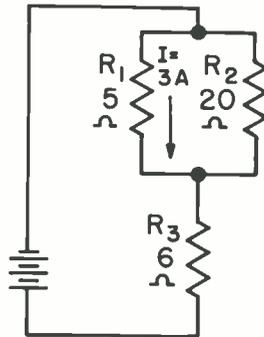

Fig. 10
6. (a) 15; (b) 15; (c) 0.75; (d) 3.75; (e) 22.5; (f) 37.5 . . . Refer to Fig. 10. The voltage across R_1 is found in Ohm's law to be $E = IR = 3 \text{ A} \times 5 \Omega = 15 \text{ V}$. Since R_2 is in parallel with R_1 , the voltage across it is also 15 V. The current through R_2 is $I = E/R = 15 \text{ V}/20\Omega = 0.75 \text{ A}$. The current through R_3 must be the sum of the currents through R_1 and R_2 , or $3 \text{ A} + 0.75 \text{ A} = 3.75 \text{ A}$. Since we know the current through R_3 and the resistance of R_3 , we can find the voltage across R_3 : $E = IR = 3.75 \text{ A} \times 6 \Omega = 22.5 \text{ V}$. Finally, the source voltage is the sum of the voltages across the parallel branch and the series branch, or $15 \text{ V} + 22.5 \text{ V} = 37.5 \text{ V}$.